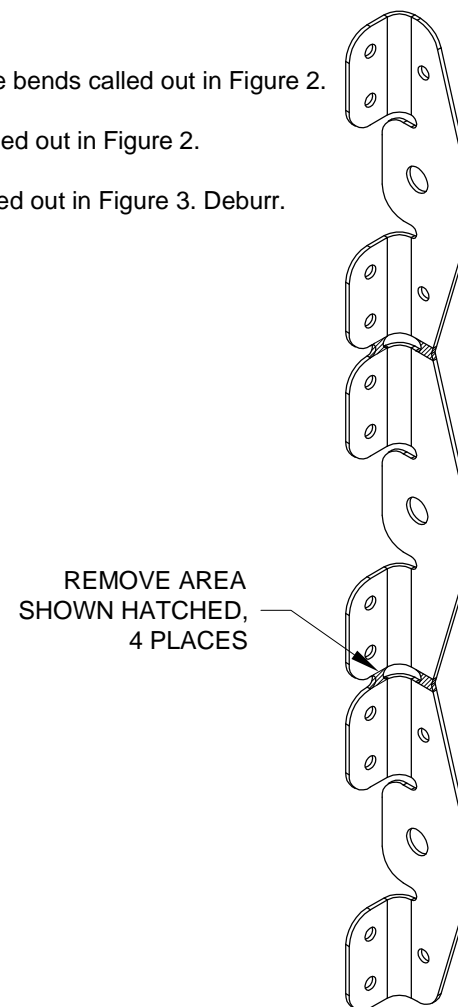

FIGURE 3:
Step 4: Separate the F-1211D Attach Brackets by removing the material called out in Figure 3. Deburr.